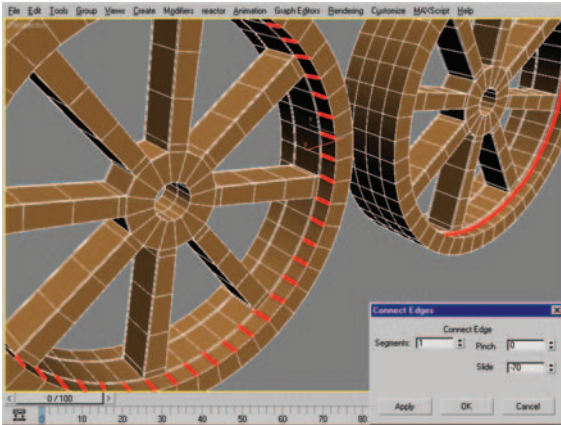

Figure 8.104 Edge-ring selection before and after performing Connect with a Slide value of -70.
14. At the Edge subobject level, select the edge ring seen in Figure 8.104 (left) and use the Connect settings with one segment and a Slide value of -70 to create a new edge loop as seen in Figure 8.104 (right).